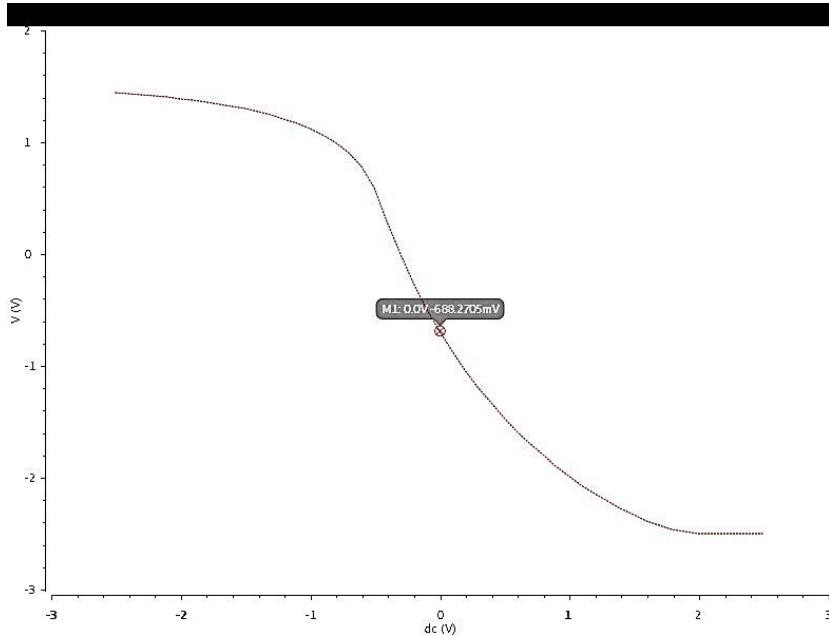

Figure 8.6: DC plot of CS Amplifier
- The response of the DC analysis is shown in Fig.8.6.